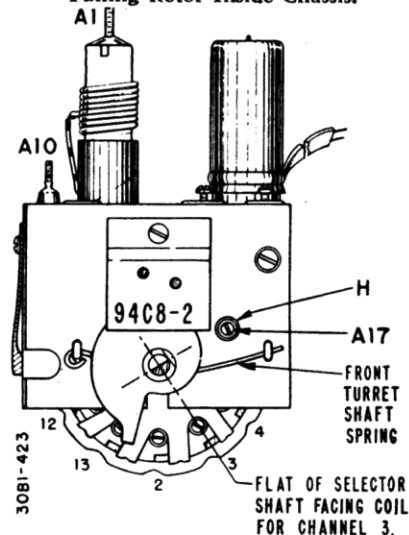

Figure 2-9. Front View of 94C8-2 Tuner With Sharp Tuning Rotor Outside Chassis.
For tuners with sharp tuning rotor assembled **outside** of tuner chassis (see figure 2-9), rotate Sharp Tuning control approximately 150° or half rotation as shown in Figure 2-9.
For tuners with sharp tuning rotor assembled outside of tuner chassis (see figure 2-9), rotate Sharp Tuning control approximately 150° or half rotation as shown in Figure 2-9.
For Tuner with Sharp Tuning Rotor Outside of Tuner Chassis (figure 2-9). The Sharp Tuning control is permanently set at the factory and cannot be readjusted for frequency tuning range.
For Tuners with Sharp Tuning Rotor Outside of Tuner Chassis (figure 2-9).
- Remove retaining bracket in front of the tuner. See figure 2-9.